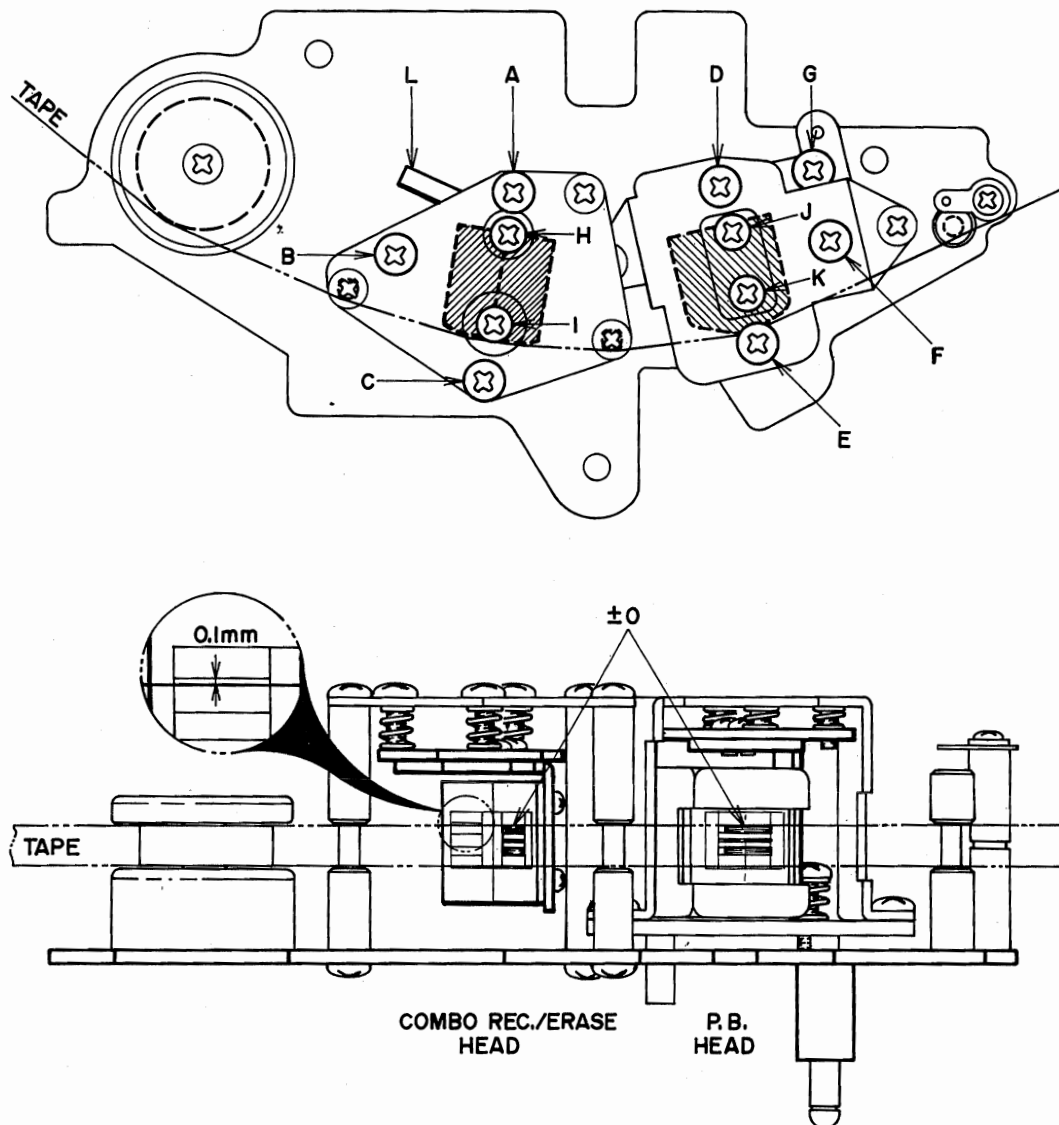

Fig. 18
At Playback mode adjust COMBO head height by turning screws (A) (B) and (C) shown in Fig. 18 to left and right until the upper edge of the tape is the same height as the upper edge of the left channel recording head core.
a) At Forward Playback mode, adjust playback head height by turning screws (D) (E) and (F) shown in Fig. 18 to left and right until the upper edge of the tape is the same height as the upper edge of the left channel playback head core.
b) At Reverse Playback mode, adjust playback head height by turning screw (G) shown in Fig. 18 to left and right until the lower edge of the tape is the same height as the lower edge of the right channel playback head core.
d) At Forward Playback mode, turn Azimuth Alignment Screw (F) shown in Fig. 18 to obtain maximum line output level on both channels.
e) After the adjustment in Item d) above has been completed, loosen screws (J) and (K) shown in Fig. 18 and move the head gap side of the playback head to left and right. When tension is applied to the supply reel side and
- d) At recording mode, turn Azimuth Alignment Adjustment Screw (B) shown in Fig. 18 to left and right until the line output level of both channels is maximum and does not fluctuate.
- e) After completing adjustment in Item d) above, adjust gap side of recording head by moving installation angle (L) shown in Fig. 18 to left and right until the line output level of both channels do not fluctuate (maximum allowable fluctuation within  $+0.5/-0$  dB) when tension is applied to the supply reel side.